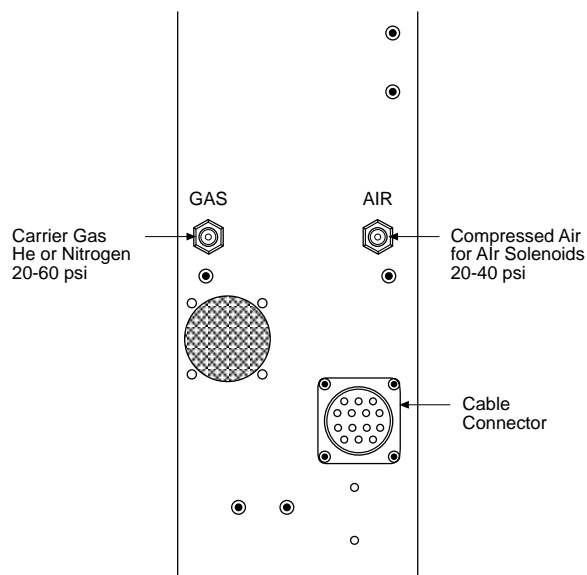

Fig 3.45 Schematic showing the location of the gas inlets on the rear of the S.P.T.D. unit.
16. The back of the S.P.T.D. unit has two 1/8" Swagelok™ fittings for connection of the carrier gas and the air which is used to operate the S.P.T.D. system. They are labeled “GAS” for the carrier gas and “AIR” for the compressed air. See **Figure 3.45**.